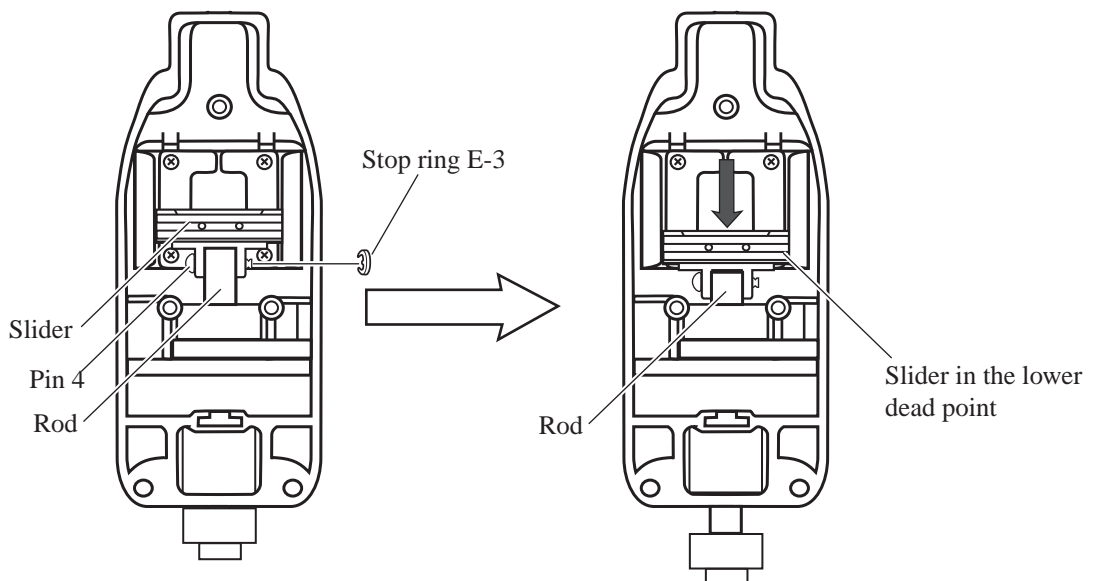

Fig. 6
2. Take off stop ring E-3 with small flat head screwdriver. And push slider to the lower dead point. See Fig. 6.